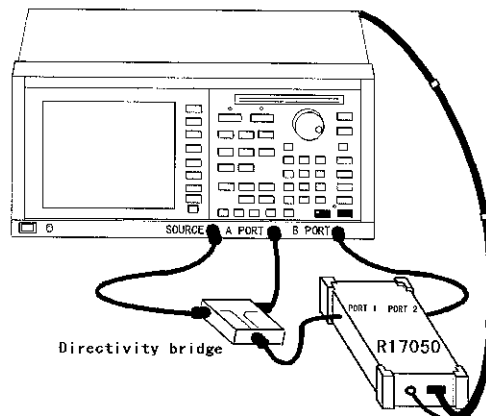

Figure 2-5 RF Port Connection
2. Connect the RF ports of the instrument to the test ports of the network analyzer (see Figure 2-5), using the cable that is actually used to measure the DUT. The RF port of the instrument has no directivity. Feel free to select port combinations.